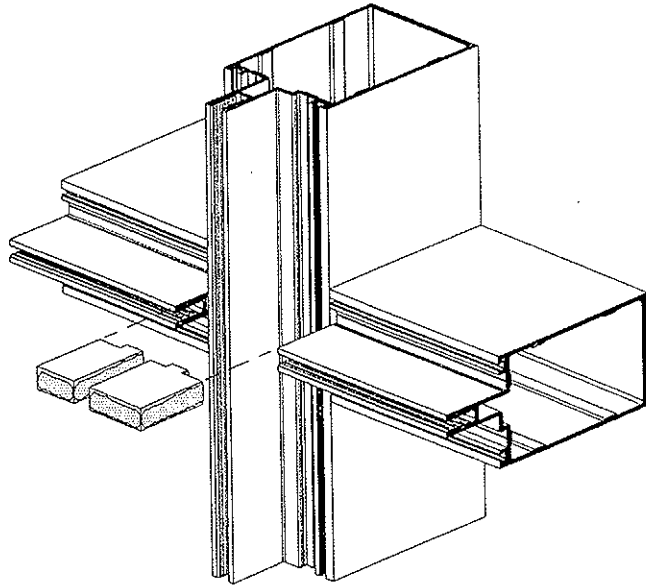

FIGURE 31
7. Attach horizontal to shear block with (1) or (2) S-270 or S-206 screws as required.
9. Turn to figures 31 thru 34 for installation of end dams.
2. Apply sealant to the (3) initial contact surfaces and slide end dam into place.
5. See Figures 31 thru 34.